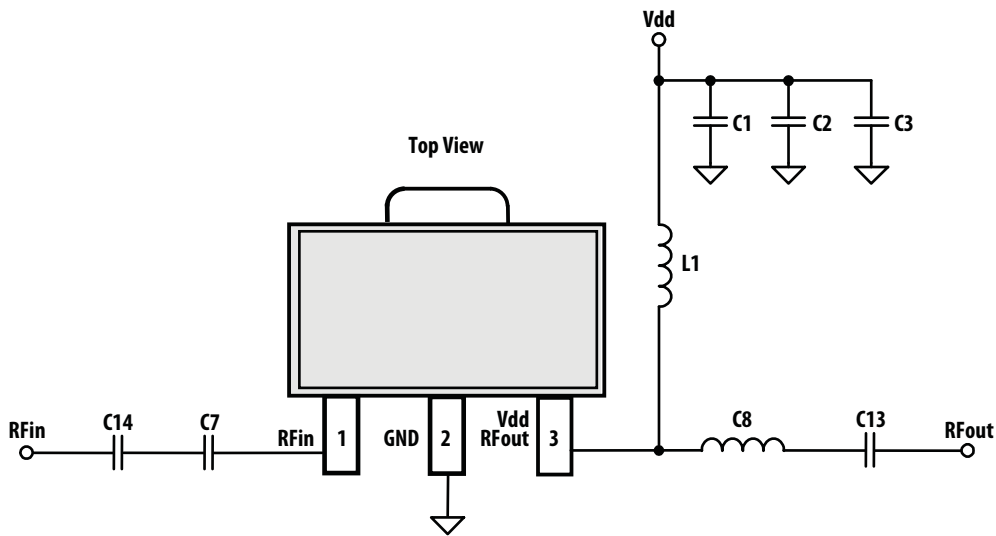

Figure 22. Application Schematic
1. Measurements obtained using demo board described in Figure 22 and 23. Both 3.5GHz and 5GHz data were taken with 3GHz - 6GHz Application Test Circuits.
$T_A = 25^\circ\text{C}$, $V_{dd} = 5\text{V}$, Input Signal = CW. Application Test Circuit is shown in Figure 22 and Table 1.
$T_A = 25^\circ\text{C}$, $V_{dd} = 5\text{V}$, Input Signal = CW. Application Test Circuit is shown in Figure 22 and Table 2.